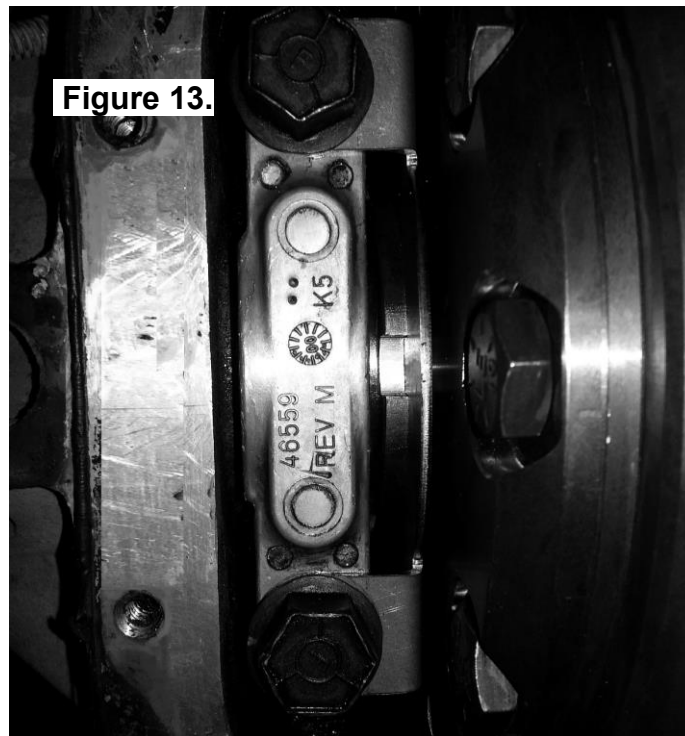

Figure 13.
- Slide the seal housing bracket into position from the right hand side of the tube and match the lip of the bracket to the slot on the seal housing (Figure 13.).
- Tighten the flange side bearing cap bolts with the seal housing bracket in place (Figure 13.).